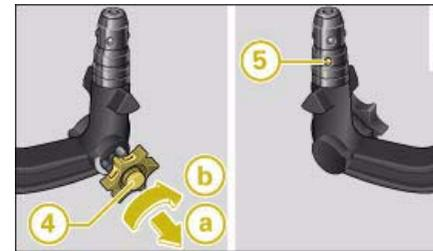

Fig. 239 Removable towing bracket: Setting the spring mechanism to the "ready" position
- Insert the key (4) ⇒ fig. 239 for locking the ball joint into the lock on the knob and turn it clockwise. ▶